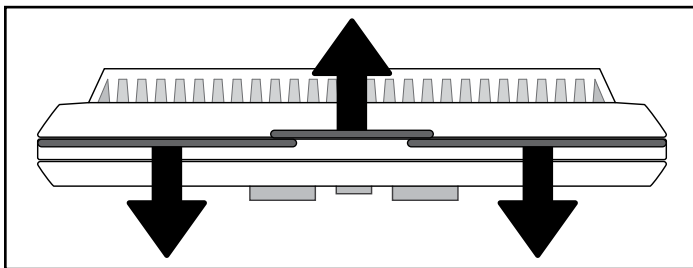

Figure 23.1
1. Separate the body of the thermostat from the mounting plate by gently pulling the two pieces apart (**Figure 23.1**)